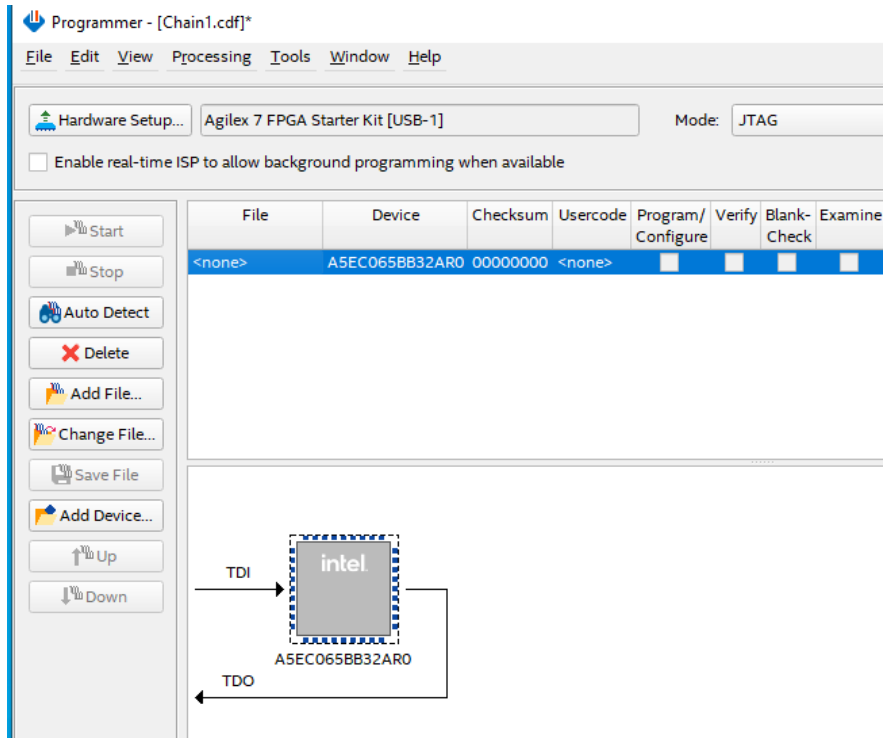

Figure 3-6 FPGA detected in Quartus programmer
3. Agilex 5 FPGA is detected, as shown in **Figure 3-6**.